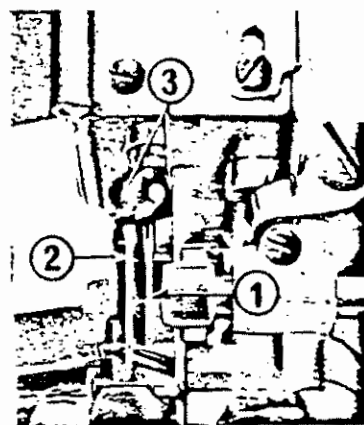

Fig 7
### 5. The needle and its insertion (Fig. 7)
Use a needle size DC×27(81×27) for overlock stitching, ①, Fig. 7. (on the right side, facing the machine)
For safety stitching, use a needle DC×27, (81×27) ② Fig. 7. (on the left side)